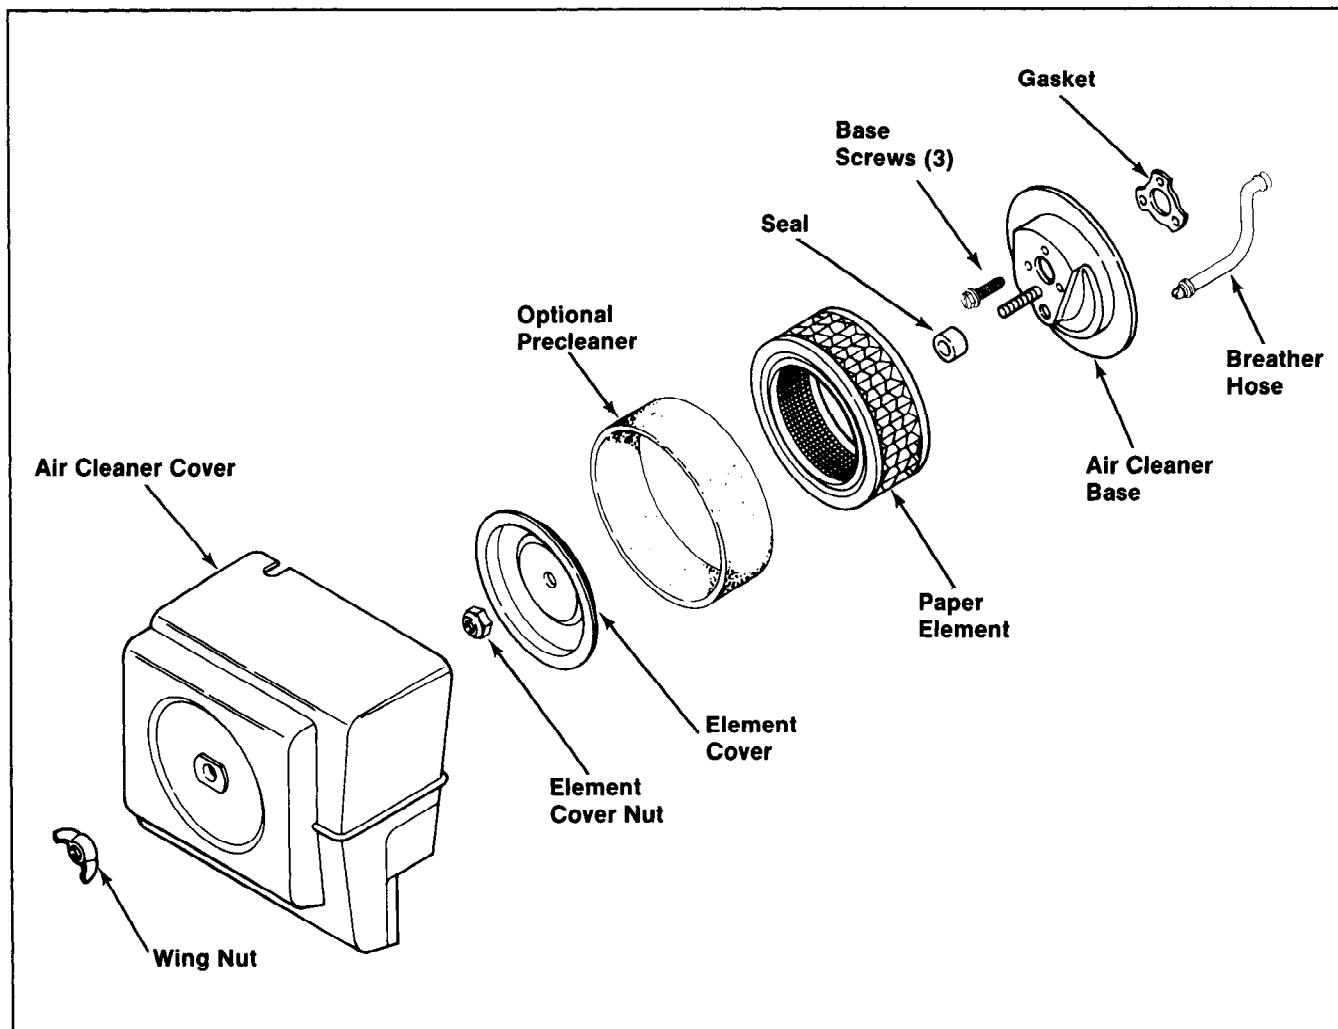

Figure 5-2. K181 New Look, Air Cleaner Assembly.
2. **Element Cover and Element Cover Nut** – On K181 New Look engines only, make sure element cover is not bent or damaged. Check that element cover nut is secured tightly to seal element between air cleaner base and element cover. Tighten nut to 50 in. lb. torque. Refer to Figure 5-2.